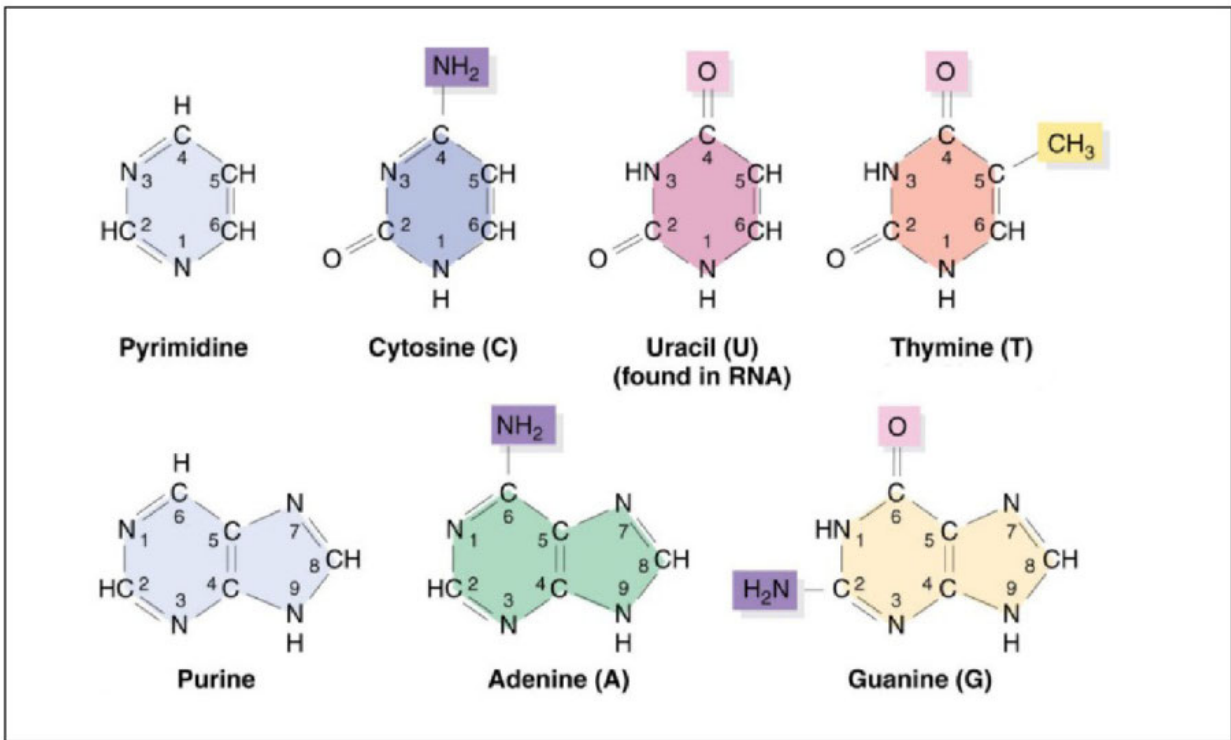

Figure 8 – Nitrogenous Bases
Figure 8 illustrates the structures of these nitrogenous bases. (7)